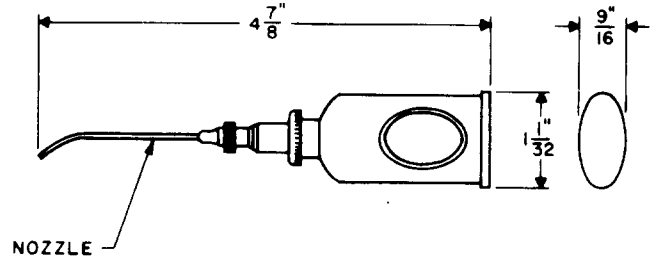

Fig. 5—KS-7666 (486A) Oil Can
2.06 **KS-7666 (486A) Oil Can:** The KS-7666 (486A) oil can (Fig. 5) is intended for general use.